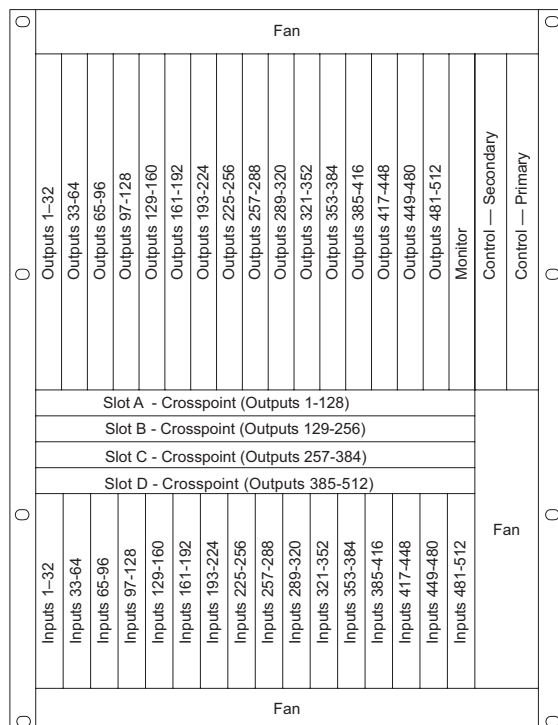

Figure 4-1. Location of Control Cards (Front View)
- 1 Locate the control cards, primary and secondary, as shown in Figure 4-1.